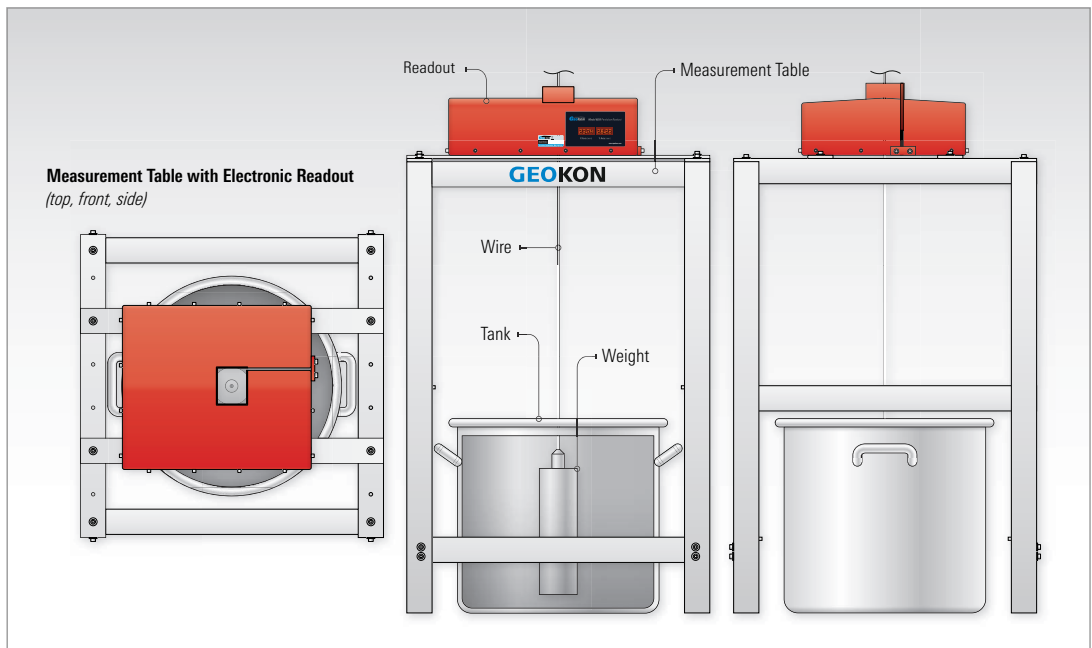

FIGURE 13: Direct Pendulum System with Measurement Table
- Lower the readout onto the table so that hook-and-loop fastener strips on the bottom of the cabinet contact the ones on the mounting surface. Figure 13 shows the assembly thus far.